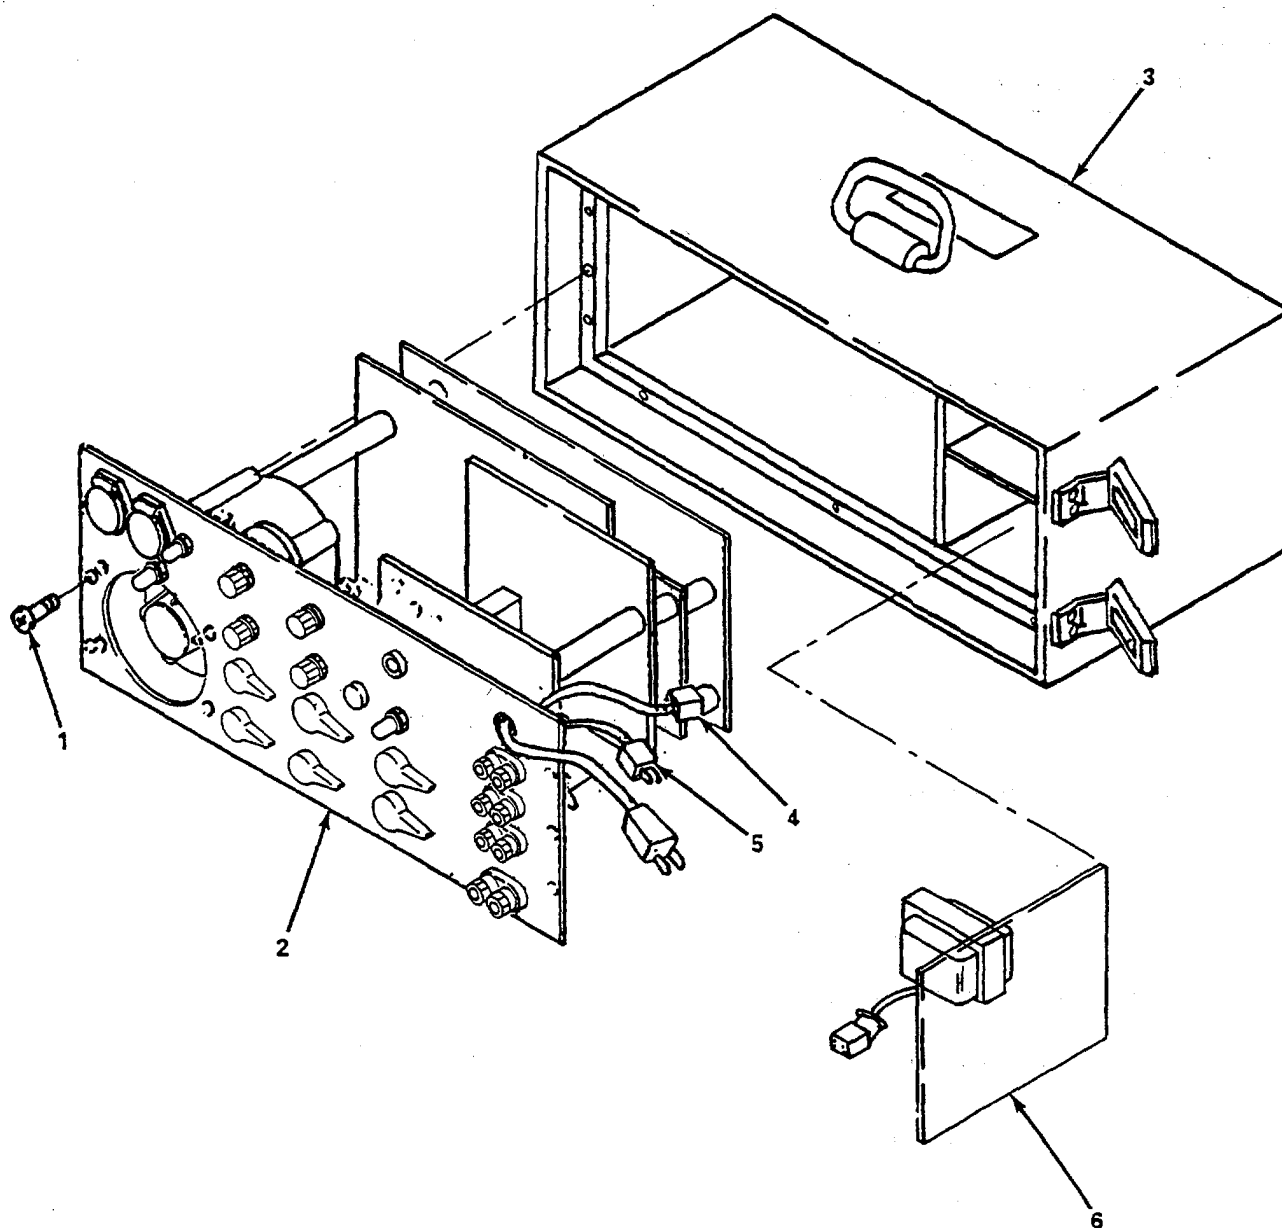

Figure 5-13. Transformer/Heat Sink Assembly, Replace.
- (1) Transformer/heat sink assembly. (figure 5-13)
- (a) Remove 10 screws (1) and front panel (2) from communications box (3).
- (b) Remove foam padding from connectors (4) and (5).
- (c) Remove foam padding from around transformer/heat sink assembly (6).
- (d) Remove transformer/heat sink assembly (6).
- (e) Slide transformer/heat sink assembly (6) back into cabinet.
- (f) Pack foam material around transformer/heat sink assembly (6).
- (g) Connect and pack foam around connectors (4) and (5).
- (h) Install front panel (2) with 10 screws (1).